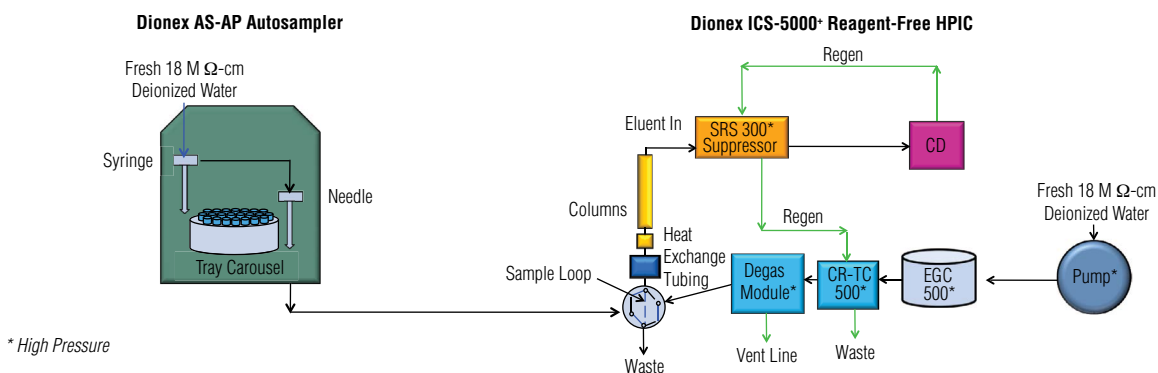

Figure 1. Flow diagram for the high-pressure Dionex ICS-5000+ Reagent-Free HPIC system.
**Tip:** To achieve the best chromatography with high-pressure IC, it is important to use high pressure connectors and ferrules (see Table 1) for all connections prior to the suppressor. The high-pressure Dionex ICS-5000+ HPIC Reagent-Free system is designed to operate from 2000 to 5000 psi. To set up this application, plumb the consumables and modules of this system according to Figure 1.